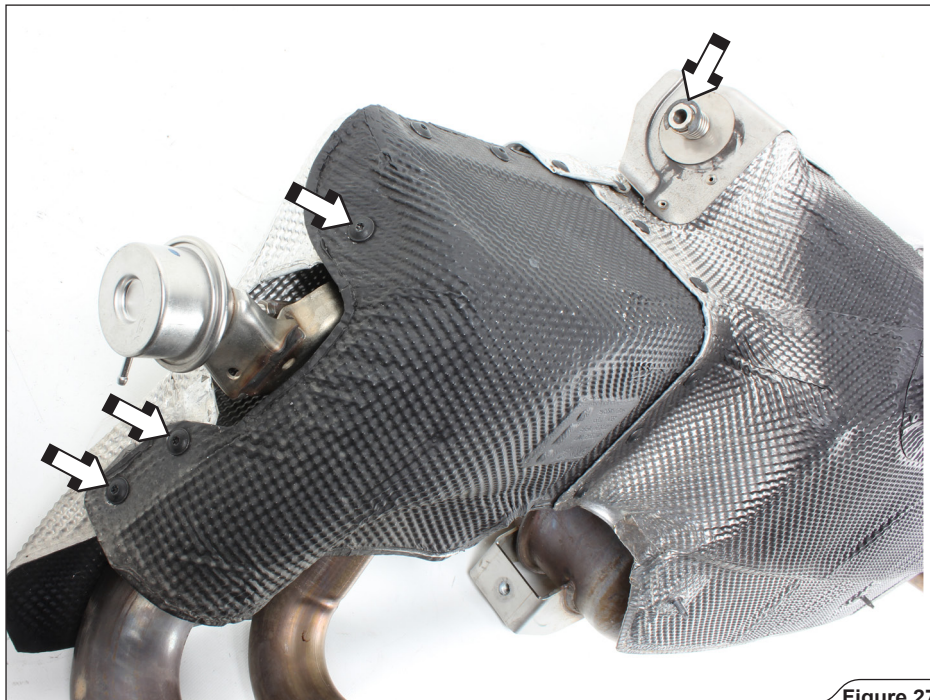

Figure 27
19. Undo the marked spring clip on both sides of the muffler and unscrew the marked bolts (Figure 27).